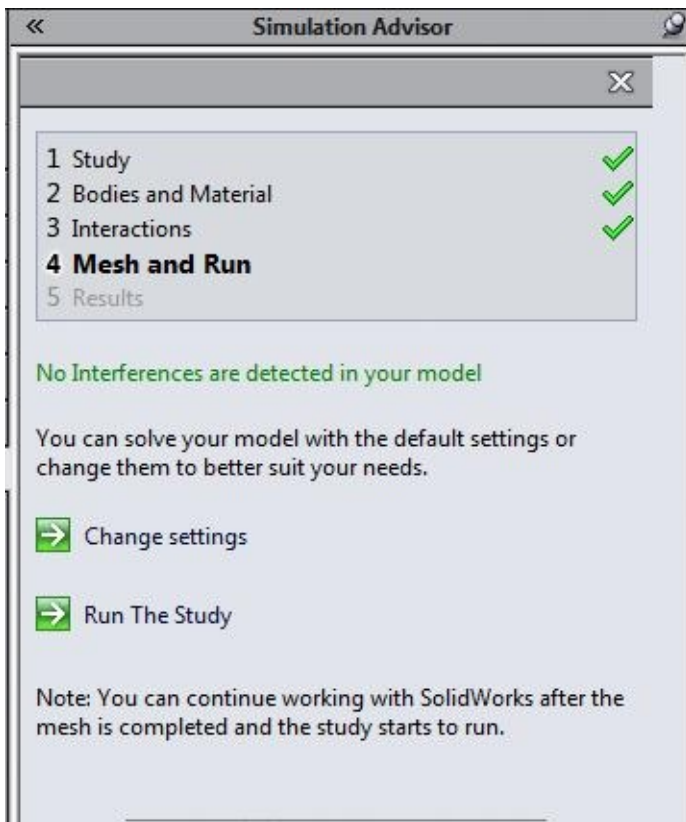

Figure-49. Mesh and Run page
- Click on the **Done - Continue to next Advisor section** link button from the **Simulation Advisor**. The **Mesh and Run** page of **Simulation Advisor** will be displayed as shown in Figure-49.